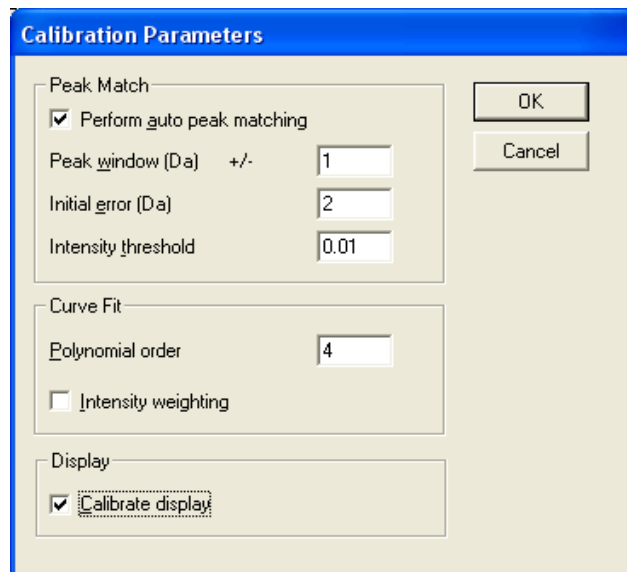

Figure 6-5 Calibration Parameters Dialog Box
Set the calibration parameters in the Calibration Parameters dialog box (Figure 6-5), which is opened by selecting Edit > Calibration Parameters in the Calibration Options window.
The Peak Match parameters determine the limits within which the acquired data must lie for the software to recognize the calibration masses and result in a successful calibration. The default values are shown in Figure 6-5.
- The Intensity threshold value, specified in the Calibration Parameters dialog box (see Figure 6-5), is too high. Peaks appear in the acquired calibration file but are ignored because they fall below this threshold level.
- The value for the Initial error (Da), or Peak window (Da) parameter, specified in the Calibration Parameters dialog box (see Figure 6-5), is too small. Hence, the calibration peaks lie outside the limits set by these parameters.